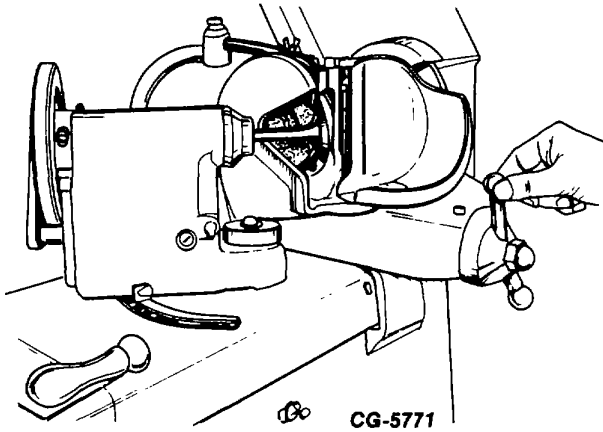

Figure 28. - Grinding Valve Face Angle
- c. Take a light cut-off valve face angle surface, as shown in Fig. 28.